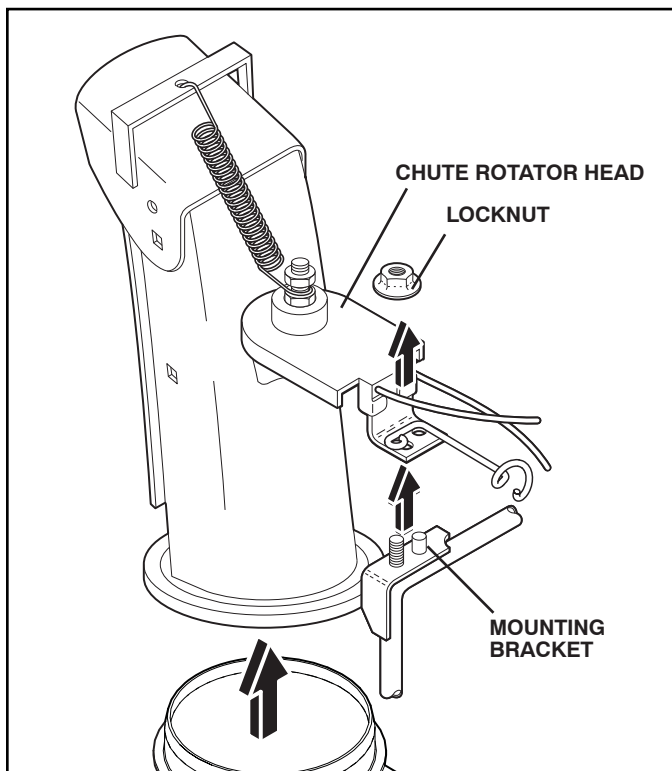

FIG. 22
2. REMOVE DISCHARGE CHUTE - Remove lock nut securing chute rotator head to mounting bracket to allow chute rotator head to be raised and discharge chute to be removed from snow thrower. See Fig. 22.